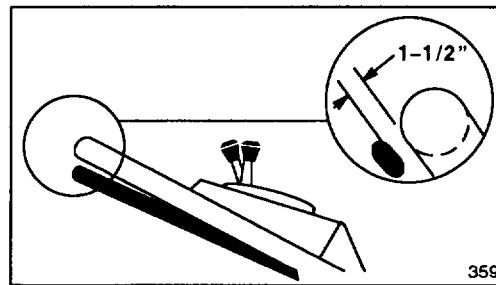

Figure 25
3. **CHECK ADJUSTMENT**—Adjustment is correct when control bar is about 1-1/2 inches from handle (Fig. 25) and wheels start to turn freely.